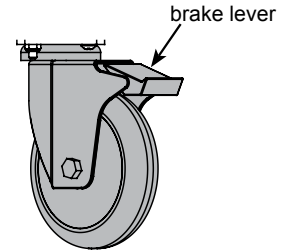

Figure 7
1. To lock the wheel rotation, press the brake lever. **Figure 7.**